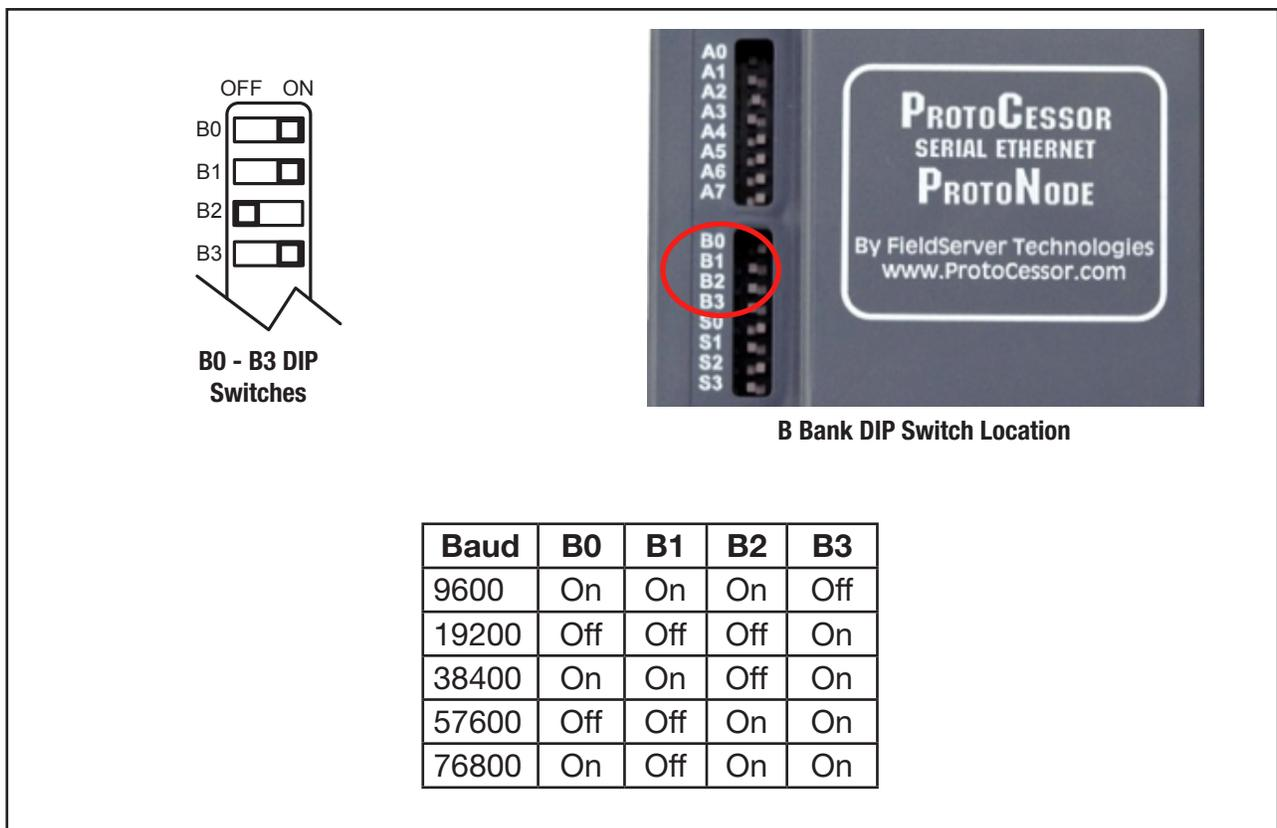

Figure 4: Switch Configuration for Baud Rate
- See **Figure 4** for the switch settings to select 9600, 19200, 38400, 57600, 76800.